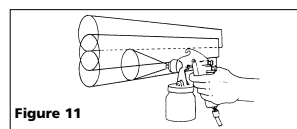

Figure 11
4. Overlap strokes just enough to obtain an even coat (See Figure 11). **NOTE:** Two thin coats of paint will yield better results and have less chance of runs than one heavy layer.